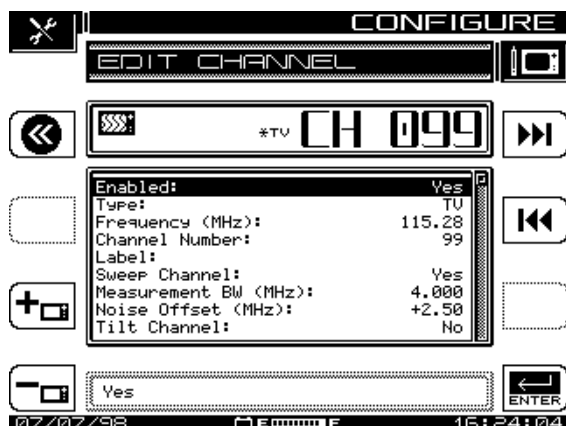

Fig. 3-9 The EDIT CHANNEL Screen
2. Press the Edit Channel soft key, and the screen in Fig. 3-9, EDIT CHANNEL, appears.